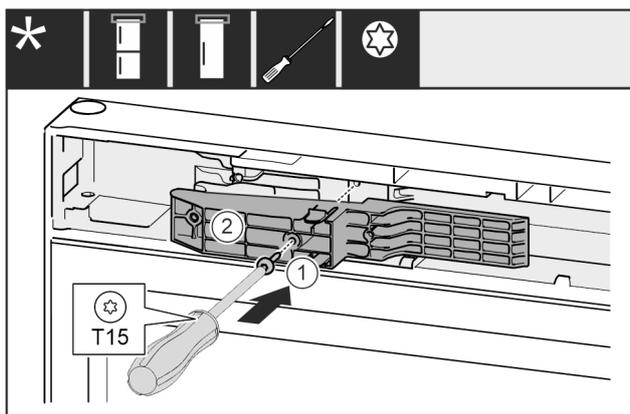

Fig. 59*
- ▶ Insert adapter Fig. 59 (1) in the recess on the handle side.*
- ▶ Tighten screw Fig. 59 (2) with screwdriver.*